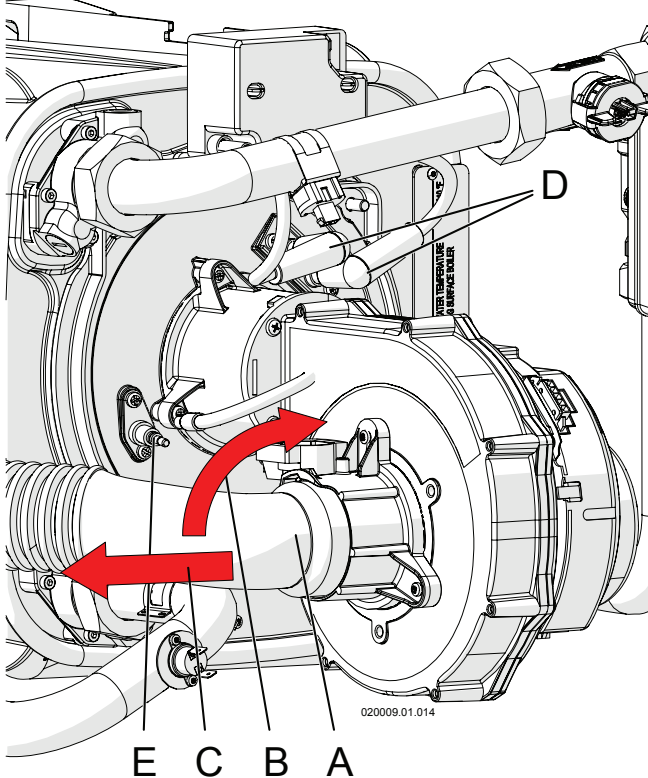

Figure 18-3 - Removing the air manifold
- 4.- dismantle air manifold "A" in Figure 18-3 by turning it clockwise and then taking it out leftwards;